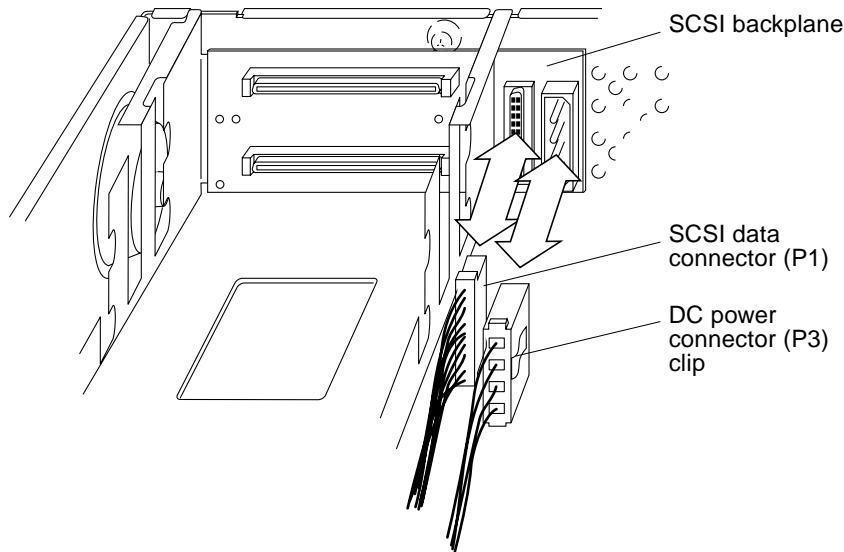

FIGURE 8-39 SCSI Backplane, SCSI Data, and DC Power Connectors
- 12. Remove the DC power harness from the metal cable guides (FIGURE 8-39).**
- 13. Disconnect the DC power connector (P3) from the SCSI backplane (FIGURE 8-39).**
1. Place the DC power harness and SCSI data cable as follows (FIGURE 8-39):
2. Connect P3 to the SCSI backplane (FIGURE 8-39).